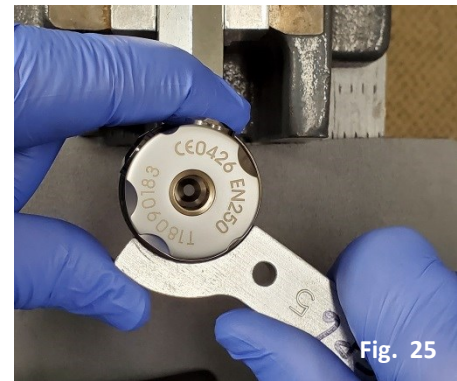

Fig. 25
12. Once again, mount the regulator in a vise, using a vise tool placed in a high pressure port. Attach a #5 hook spanner with the pin extended to the full depth of the recess on the IP cap (#24), and hold the hook firmly against the cap (Fig. 25). Rotating counterclockwise, loosen the IP cap with the handle of the spanner. If loosening the cap requires excessive force, refer to the section “Frozen Threads” below. Then complete removal, unscrewing the IP cap by hand.